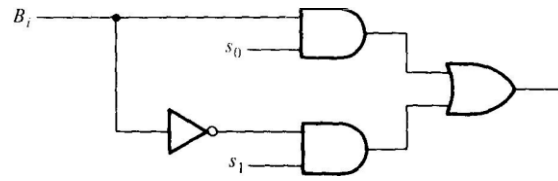

Fig 5.5
- From the above Fig 5.5, by changing the B input and C_{in} we get 8 operator. So the input B is applied in four different form by using following circuit